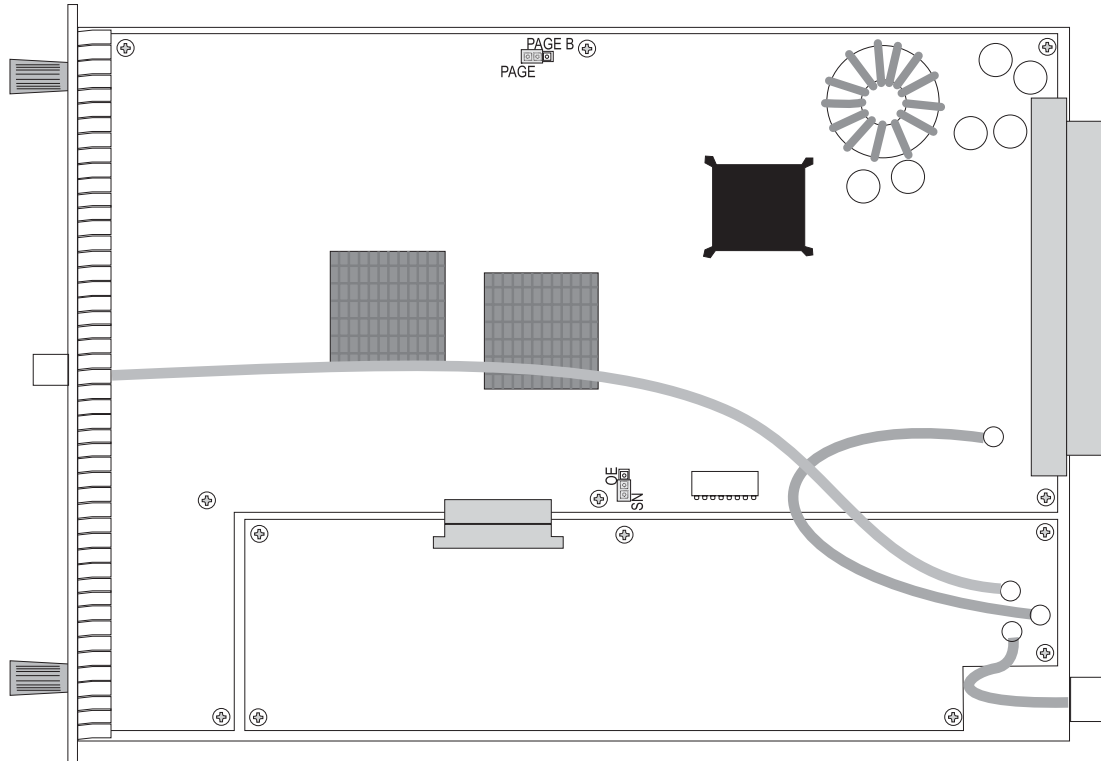

Figure 5. Selectable Option Hardware for the DV6102NCD
- Board surface jumpers on the DV6102NCD allow the user to enable or disable the software ON/OFF control, and choose the firmware page in case of a firmware problem. Refer to Figure 5, and Table 5.